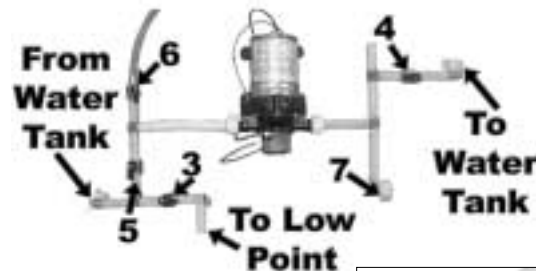

Fig. 4-12
1. Drain the water tank and water heater completely by turning all faucets on until the tank and heater are empty. Close valves 4 and 6 and open valves 1, 2, 3, and 5. (Fig. 4-12 & 4-13 or 4-14)
2. In a large bucket, prepare a chlorine solution using 3/4 cup of household bleach and three (3) gallons (11.35 liters) of water.
Model 23RK: Make sure valves 1, 2, 3, and 5 are closed and valves 4 and 6 are open. (Fig. 4-12 & 4-13)
Model 23RK: Make sure valves 1, 2, 3, and 5 are closed and valve 4 is open. (Fig. 4-12 & 4-13)
11. Drain the water tank and water heater completely by turning on all faucets until the tank and heater are empty. Close valves 4 and 6 and open valves 1, 2, 3, and 5. (Fig. 4-12 & 4-13 or Fig. 4-14)
3. Open valves 1, 2, 3 and 5 and close valves 4 and 6. (Fig. 4-12 & 4-13 or 4-14)